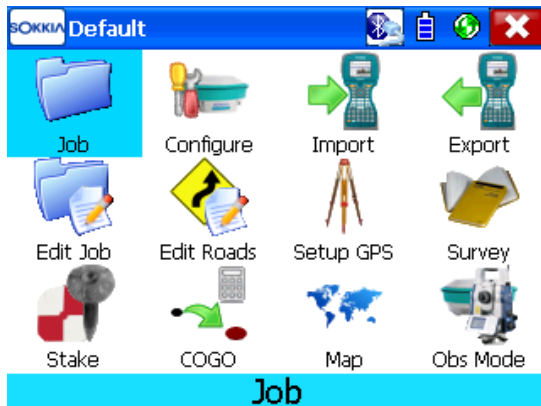

Figure 2-6. Sokkia SSF Main Screen
- **Open** – makes the Default job current and opens the main screen (see Figure 2-6 on page 2-5).
The Sokkia SSF main screen opens to work in the current job (Figure 2-6).